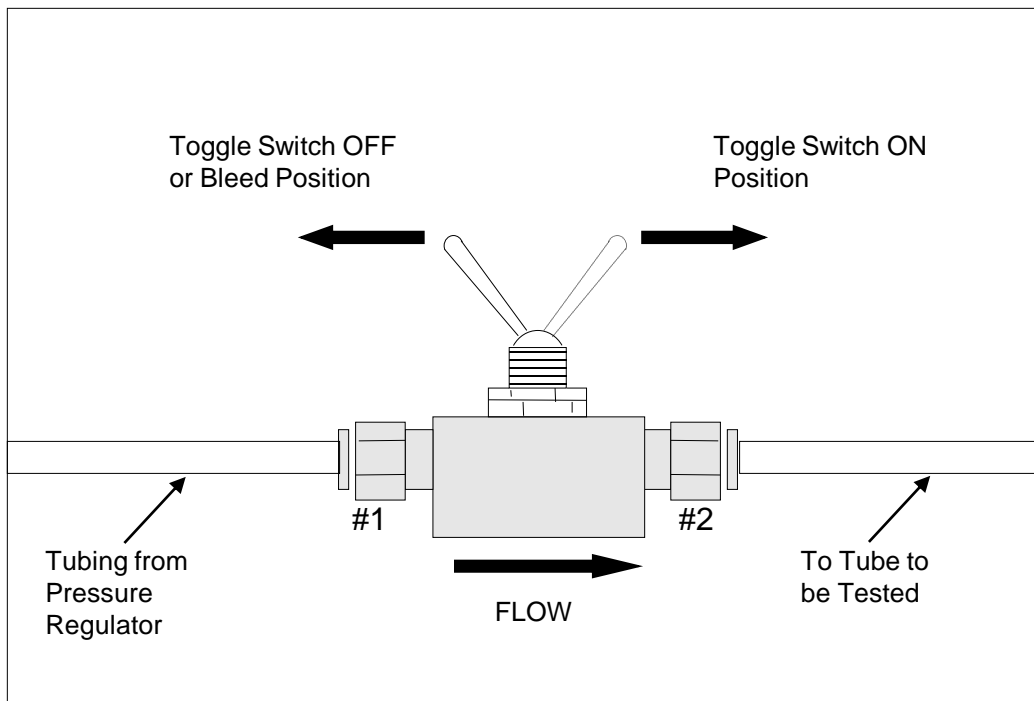

Figure 5
7.2 Push-fit Installer provided length of 8mm tubing between 8mm Tubing Adapter and #1 Inlet coupling on Bypass Switch. **See Fig. 5.**
7.3 Ensure Bypass Switch is OFF and open Bottle Supply Valve. **See Fig. 5.**
8.5.1 At entry point FTU, push-fit 8mm jumper tubing and a Tube Coupling between #2 Outlet on Bypass Switch and first tube to be tested. **See Fig. 5.**